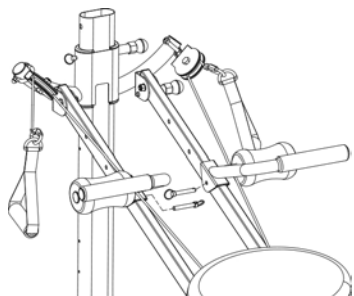

FIGURE 2
If the Stopper at the bottom of the Vertical Column has not already been installed, please do so now. Locate the Stopper which is packed in Miscellaneous Accessories (**See** Product Specifications on page 4 of this manual). Unscrew nut on the end of the Stopper and remove. Insert the Stopper into the hole located in the center of the Back Crossbar (See Fig. 1). Screw the nut back onto the Stopper and tighten with Allen Wrenches provided (See Fig. 2).
3. Insert the 2 Short Hitch Pins through the holes on the Wing Attachment Brackets and the hole on the Rails, as shown in Figure 2.